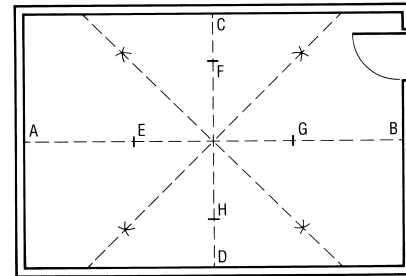

Fig. 26 - Diagonal layout.
- Use a slightly larger arbitrary size and swing an arc on both sides of each line from points E, F, G, H (Fig. 26). Snap diagonal chalk lines at the point where the marks intersect. If done correctly, the chalk lines will intersect at the center point.